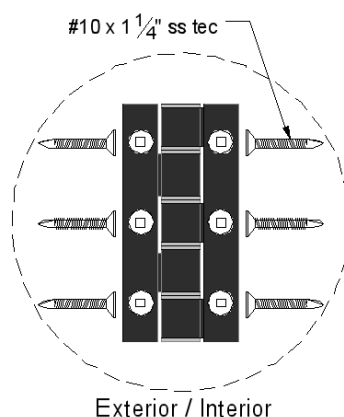

FIG 6.
- Attach interior hinges as per FIG 6.
- c) Attach interior hinges using screws provided as per Fig 6.